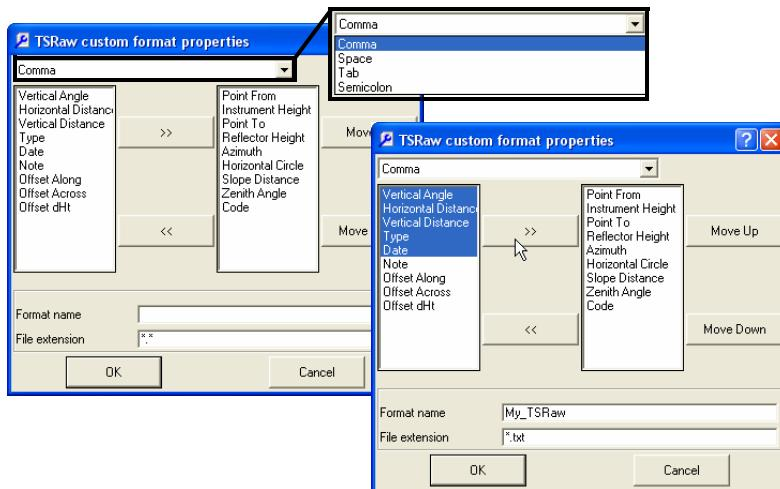

Figure 3-55. Select Delimiters and Add Elements
3. On the **TSRaw custom format properties** dialog box, select the desired delimiter (Figure 3-55).
4. Select the elements to include in the format from the left column and click the move right button (**>>**) to add it to the right column (Figure 3-55). Use the move left button (**<<**) to remove elements from the format.